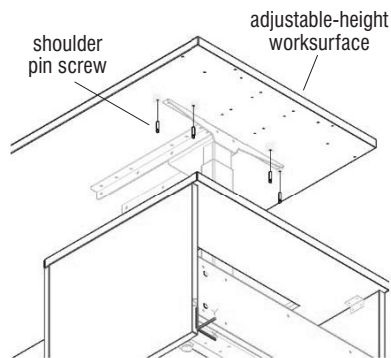

Figure 7
1. Using a Phillips screwdriver, twist four shoulder pin screws into the mounting hole locations on the underside of the worksurface until the first shoulder of the pin screw comes tightly into contact with the worksurface as illustrated (Figure 7).